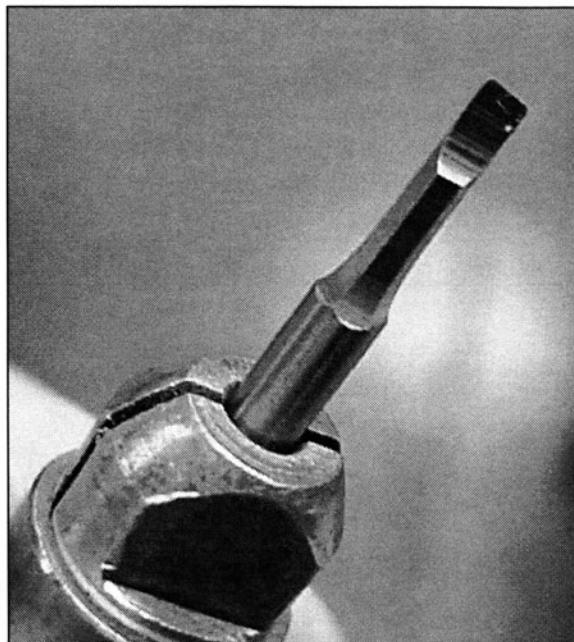

FIGURE 7-6 These little hex bits are strong, easy to grind and cut smooth surfaces.
7. *Make small six sided milling cutters for maximum sturdiness and ease of sizing. (See Fig. 7-6)*